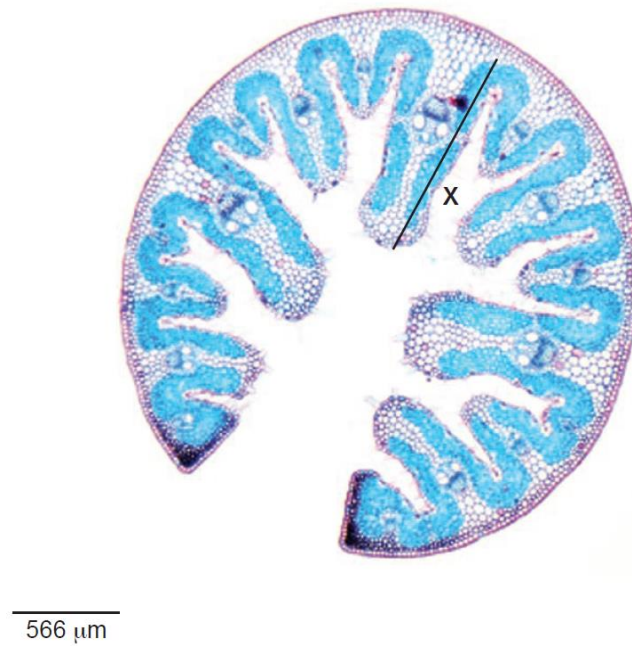

Fig. 3.2
- (c) Fig. 3.2 is a photomicrograph of a stained transverse section through another species of leaf that also grows in a hot and bright environment.
- (ii) Complete Table 3.1 to identify different features of the leaf on Slide **K1** and in Fig. 3.2 that allow them to be adapted to hot and bright environments.
leaf in Fig. 3.2